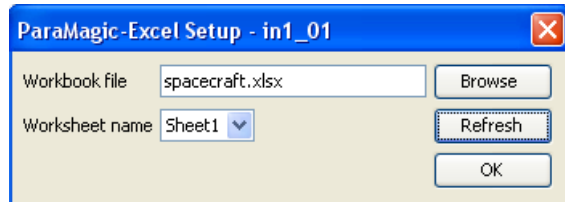

Figure 6.13b ParaMagic- Excel Set-up for instance after completion
- c. After the Workbook name is entered, the available worksheets within that file will appear as a drop-down list by the Worksheet name label. Select the desired worksheet, Sheet1. See Figure 6.13b.